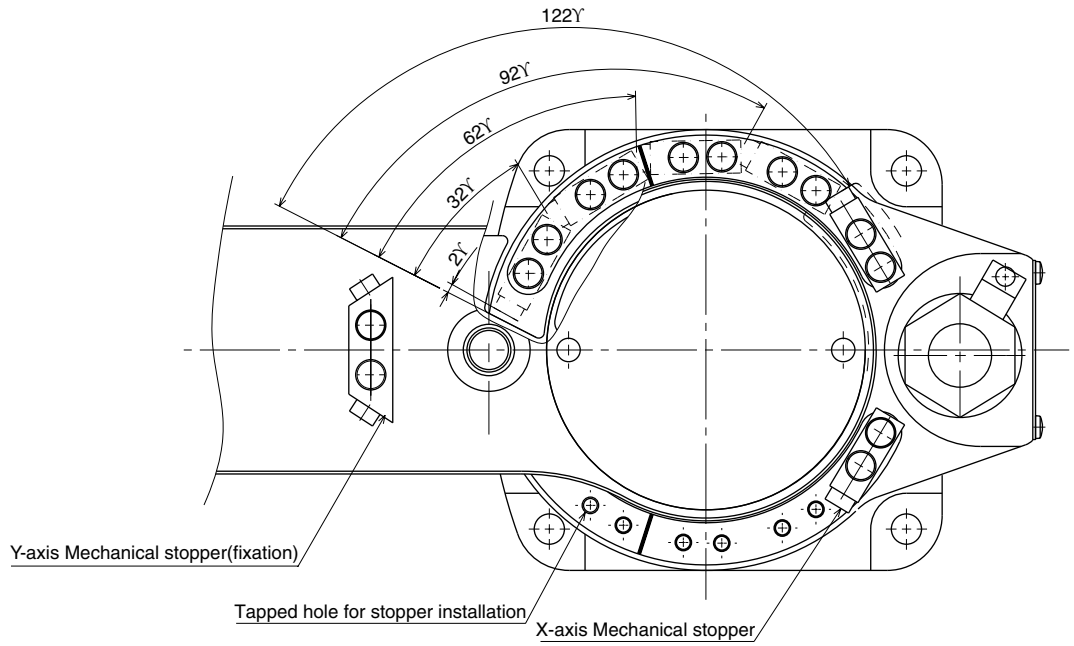

Fig. 3-67 Mechanical stopper positions and movement range (R6YXC500, R6YXC600)
- 5) Remove the X-axis mechanical stoppers installed as shown in Fig. 3-67 and Fig. 3-68. Then reinstall the mechanical stoppers at the positions that determine the desired movement range by tightening them to the torque specified in Table 3-4.